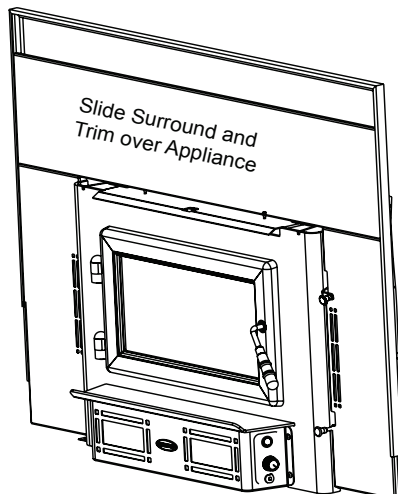

Figure 19.3
6. Install the surround set and trim set to the outer can. Place the hook in the surround sides over the surround attachment screws, 2 on each side (**Figure 19.3**).